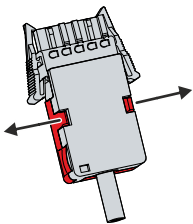

Fig. 22: C6650\_Disassembly of strain relief housing
1. Use your fingers to bend the latching lugs on the lower part slightly outwards (see Fig. 22).